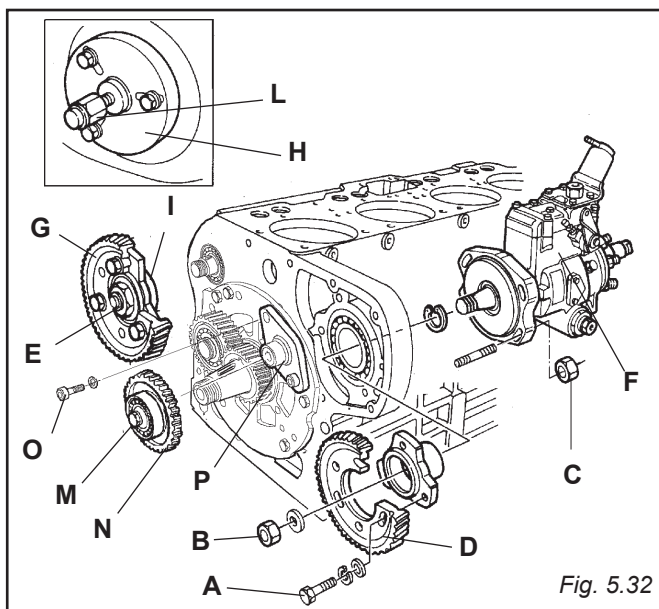

Fig. 5.32
5.39 INJECTION PUMP (FIG. 5.32)
5.40 INJECTION PUMP GEAR (FIG. 5.32)
5.41 CAMSHAFT GEAR (FIG. 5.32)
5.42 INTERMEDIATE GEAR (FIG. 5.32)
5.43 INTERMEDIATE GEAR SUPPORT (FIG. 5.32)